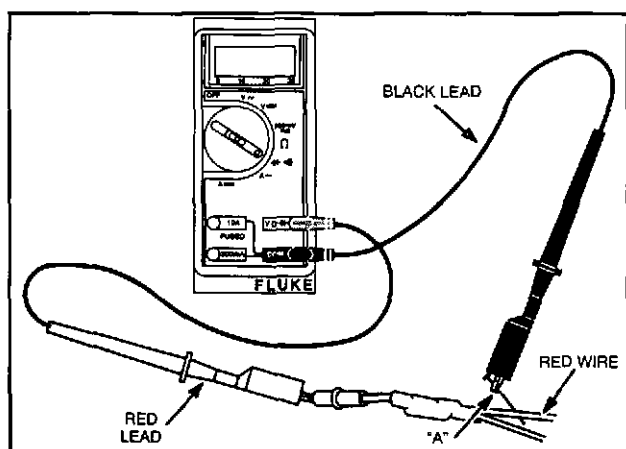

Fig. 18 - Diode Testing - Charging Circuit
4. Attach BLACK test lead clip to point "A," (red wire) Fig. 18. (It may be necessary to pierce wire with a pin as shown.)